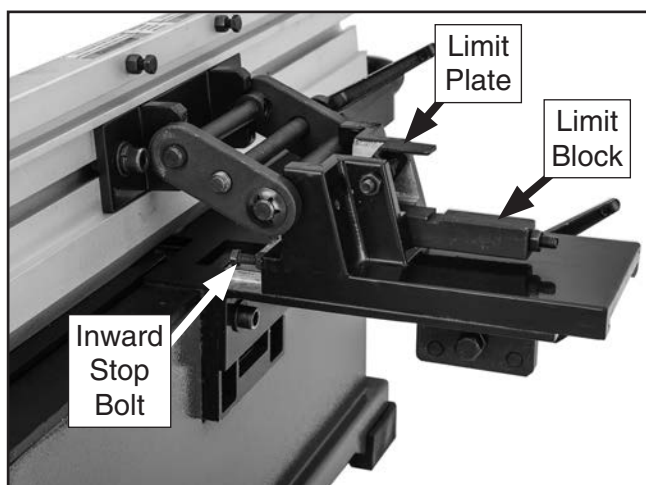

Figure 29. Adjusting the inward stop.
- Remove limit block from fence bracket assembly and set it aside (see **Figure 29**).
- Adjust inward stop bolt (see **Figure 29**) until it contacts fence face at precisely 45° inward, then tighten jam nut (where bolt meets bracket assembly) while holding stop bolt in place. Replace limit block and set limit plate.